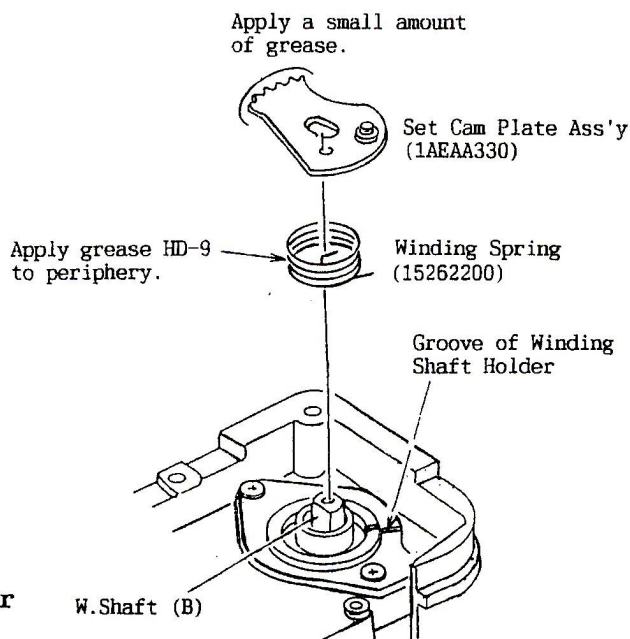

Fig.24
- 12) In the position as shown in Fig.24, fit the Set Cam Plate Ass'y (1AEAA330) gently on the W.Shaft (B).
- a) When installing the Set Cam Plate Ass'y, take care that the engagement between the W. Gear and the Idle Gear (A) on the upper side of the Body does not change. Also take care that the W. Claw is